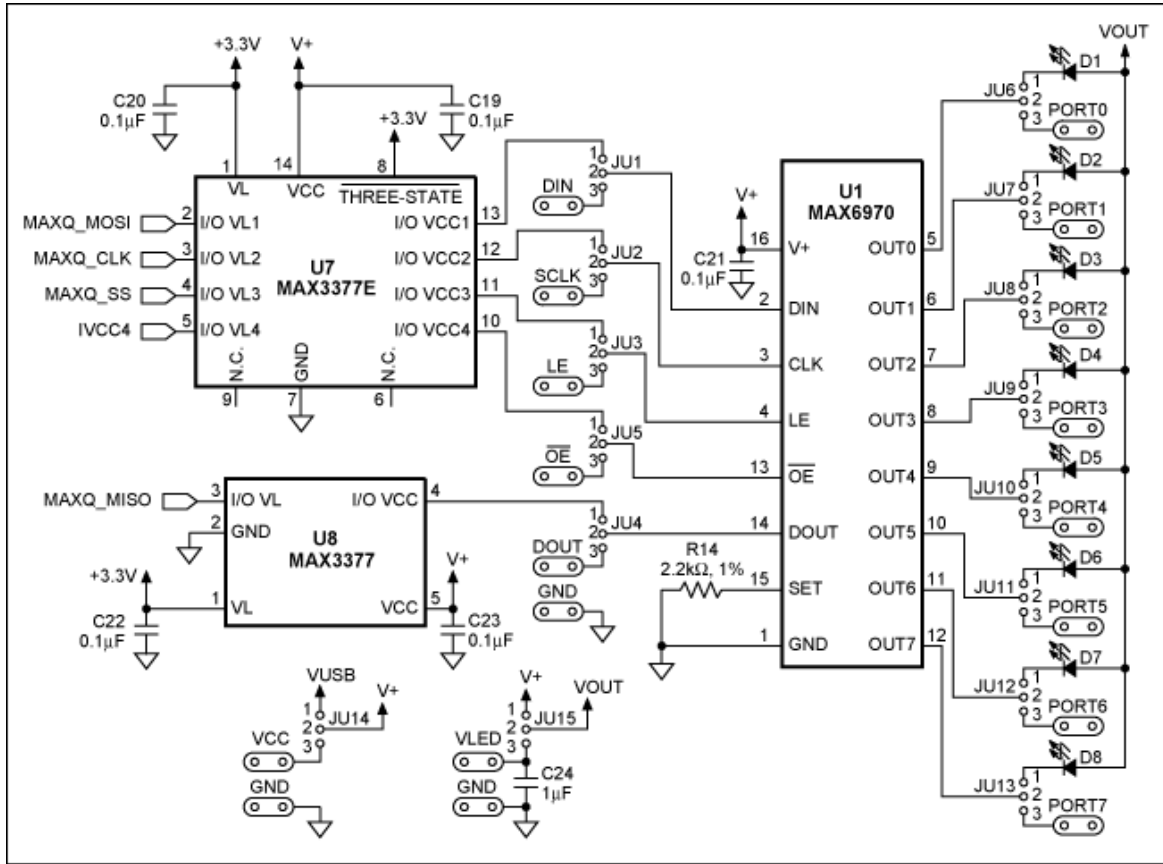

Figure 1. MAX6970EVKIT schematic.
The circuit discussed in this application note utilizes the MAX6970EVKIT and the MAXQ2000-KIT. The MAX6970 evaluation (EV) kit schematic is shown in **Figure 1**. A MAXQ2000 EV kit board is included in the MAX6970 EV kit design. However for this application, it will be detached from the on-board MAXQ2000, since the MAXQ2000 EV kit has pushbutton features that would otherwise be used to control the LED sequences.